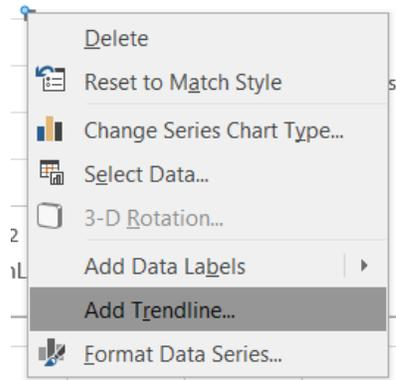

Fig. 5: Add Trendline
8. Right click on any data point on the graph. Select Add Trendline (Fig. 5).